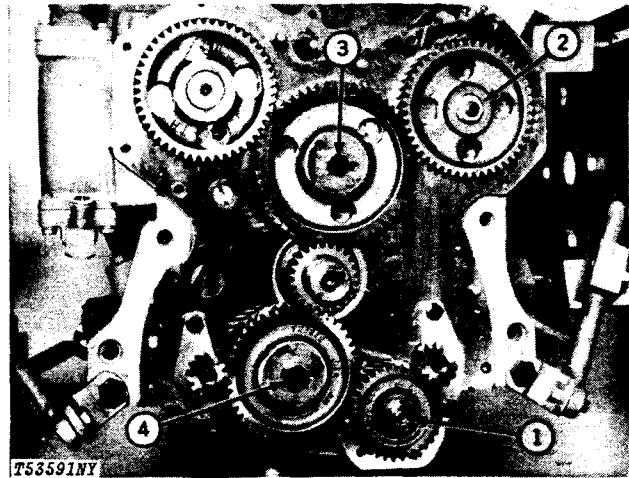

Fig. 27-Removing Idler Gears
Remove oil pump drive gear nut (1, Fig. 27), injection pump drive gear nut (2), upper idler gear cap screw (3), and lower idler gear cap screw (4).